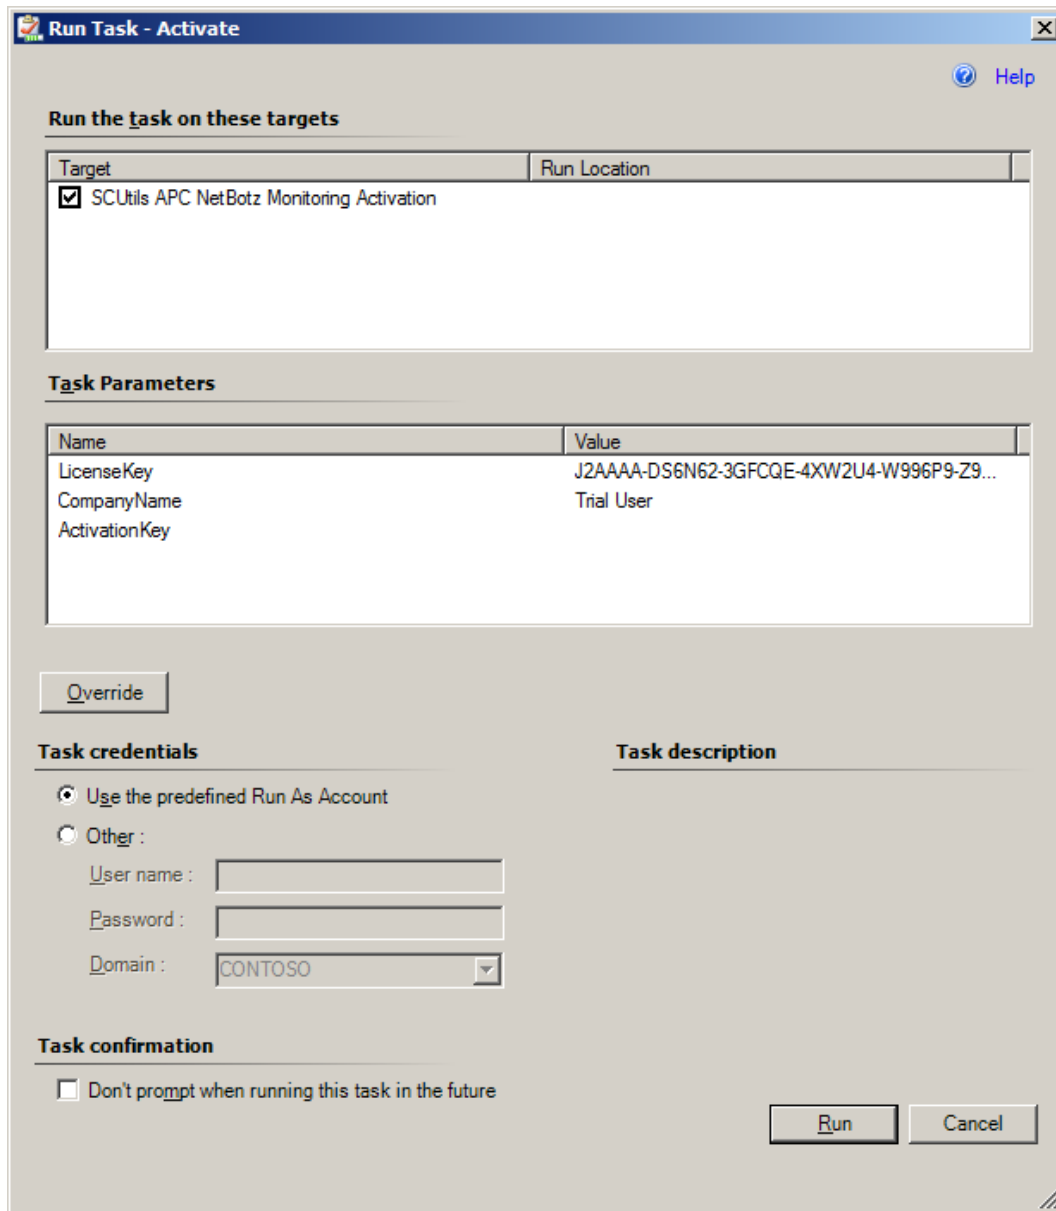

Fig.4 SCUtils Management Pack for APC NetBotz 200 Activation
5. **Run Task - Activate** window will be opened (Fig.4).